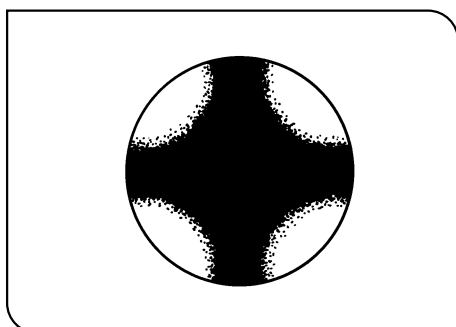

Fig. 4
4. Look into the light path through the tube mount on the top of the MX-ANM and rotate it until the dark cross-shaped isogyre (Fig. 4) becomes the sharpest. Then tighten the clamping screw firmly.